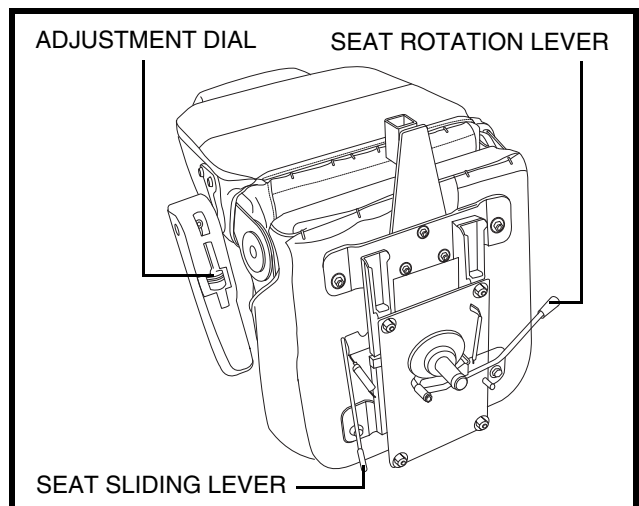

Figure 18. Seat Position Adjustments
1. Move the seat sliding lever located at the lower left side of the seat outward. See **figure 18**.